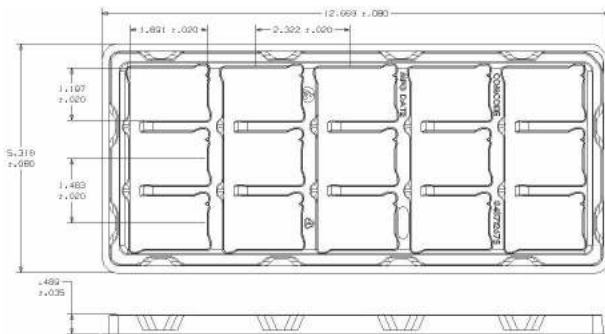

Figure 69. Surface Mount Packaging Tray
The surface mount versions of the HW005 family (suffix -S) are supplied as standard in the plastic tray shown in Figure 69. The tray has external dimensions of 135.1mm (W) x 321.8mm (L) x 12.4mm (H) or 5.319in (W) x 12.669in (L) x 0.489in (H). Surface mount versions of the HW005 family are also available as an option packaged in Tape and Reel. For further information on this please contact your local Tyco Electronics Power Systems Technical Sales Representative.